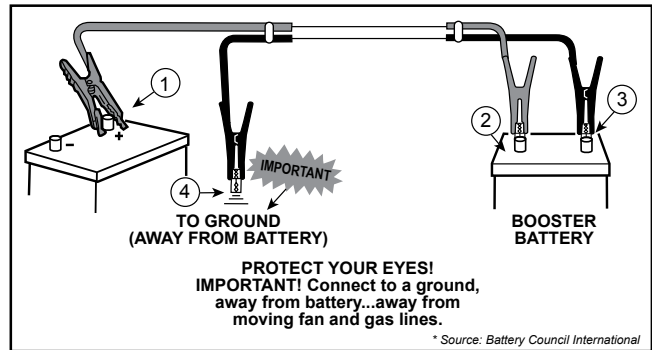

Figure 7-1c Jump Starting.
5. Start both vehicles and remove cables in reverse order of connection. Discard the rags. See Figure 7-1c for proper hookup.